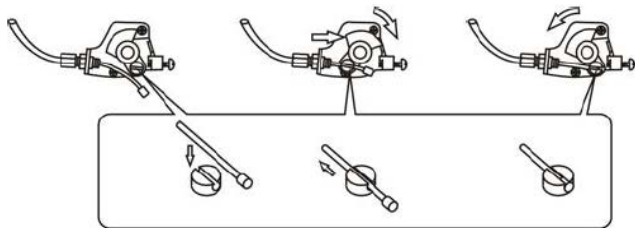

Fig. 3
1. Insert the throttle wire through bracket and fasten by hex nut. Fig. 3
4. Close the carburettor cover by fastening the screw. Fig. 3
Pass the throttle wire through adjust screw as Fig.3.